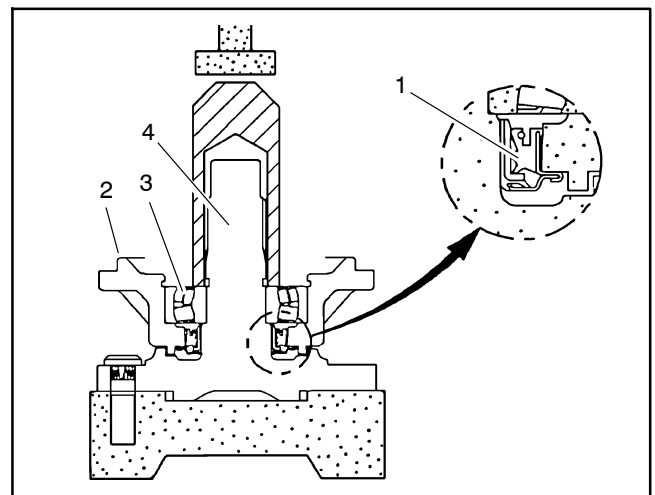

Figure 34
1. Coat new axle shaft seal with grease and install in axle cover as shown (Fig. 34).
2. Press the axle cover and bearing assembly onto the axle shaft. Press only on the inner race of the cover bearing (Fig. 34).